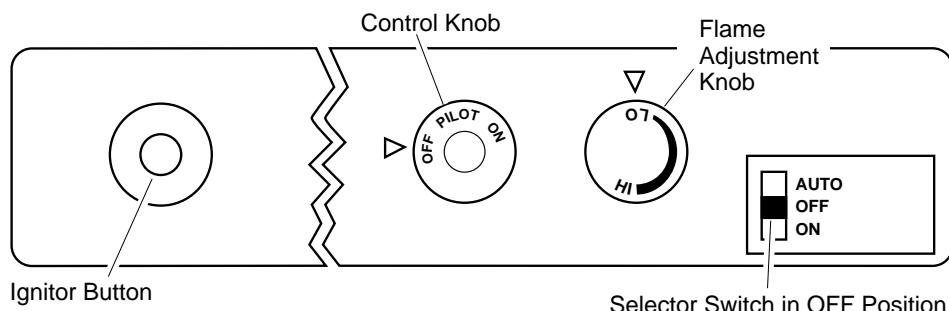

Figure 21 - Control Knob and Ignitor Button Location
4. Press in and turn control knob clockwise to the OFF position (see Figure 21).
5. Wait five (5) minutes to clear out any gas. Then smell for gas, including near the floor. If you smell gas, **STOP!** Follow "B" in the safety information in column 1. If you don't smell gas, go to the next step.
6. Press in and turn control knob counterclockwise to the PILOT position. Press in control knob for five (5) seconds (see Figure 21).